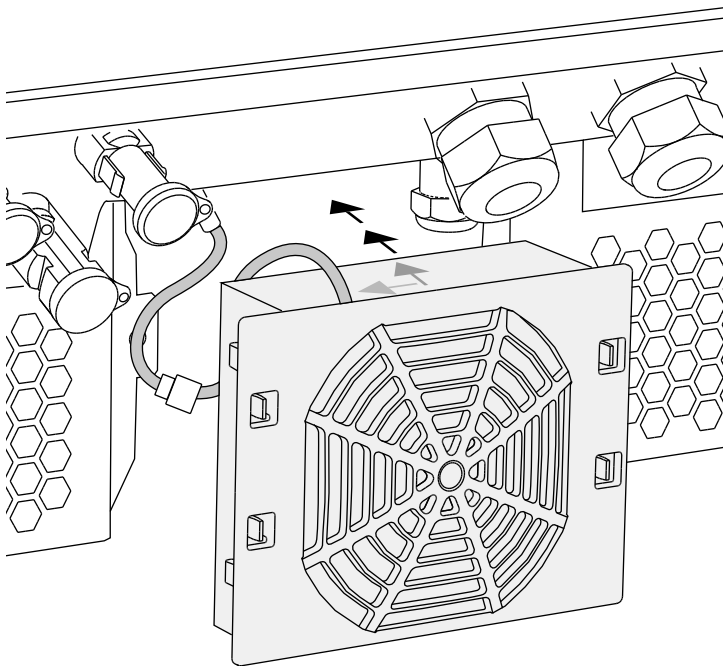

Fig. 75: Fan installation
- The fan must be correctly installed in the fan frame (air flow direction).  **Fig. 75**